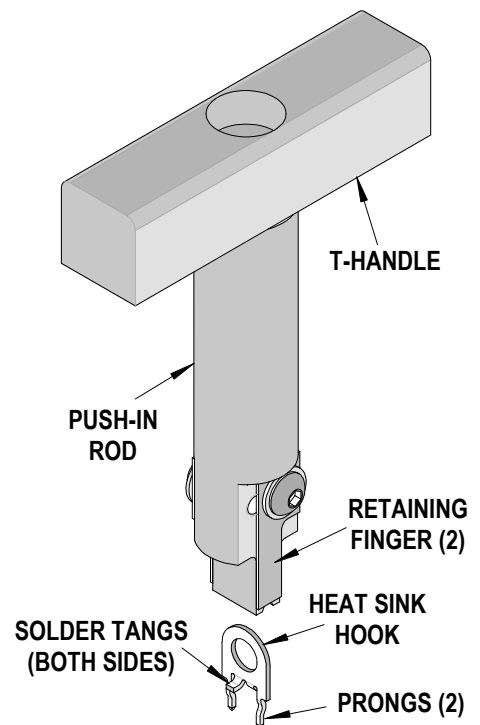

Figure 1
2. The solder tangs of the Heat Sink Hook should be touching the bottom of the push-in rod of the Insertion Tool, and centered between the retaining fingers. Make sure it is held between the fingers so it will not fall out during insertion into the PCB. See Figure 1.